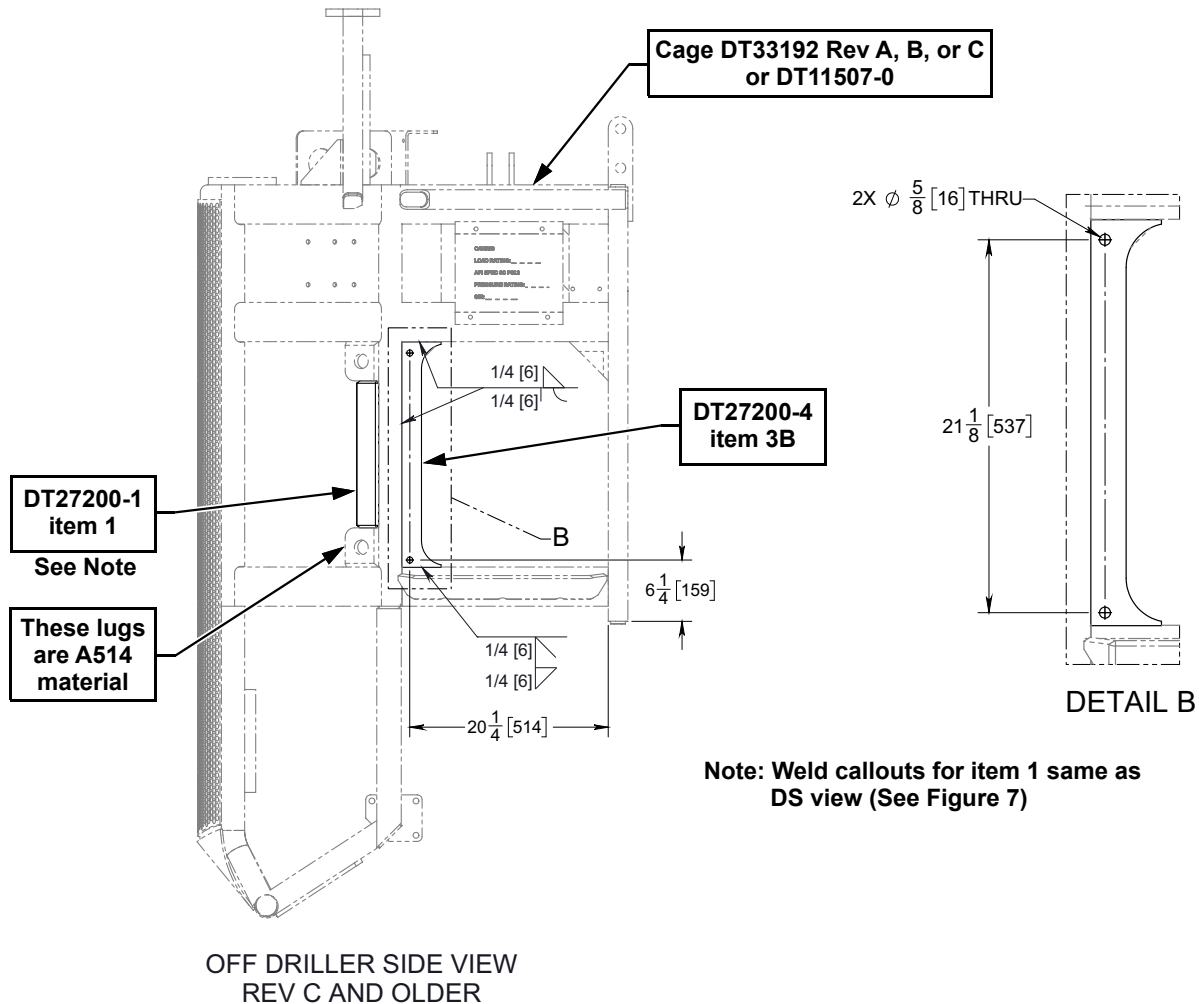

Figure 11: Plates installed on cage (ODS)
2. Replace with plate P/N: DT27200-4 (item 3B) as shown in Figure 11 on page 12. **Note:** Outside of item 3B is flush with outside of plate/HSS above and below them.
3. Drill 5/8" hole as shown in Detail B in Figure 11.